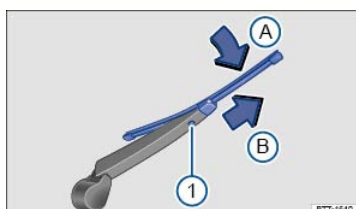

Fig. 205 Changing the rear window wiper blades.
- Press and hold the release button ⇒ Fig. 205①.
- While lifting the wiper blade in the direction of the wiper arm ⇒ Fig. 205 (arrow A), pull off the wiper blade in the direction of the arrow B. This may require moderate force.